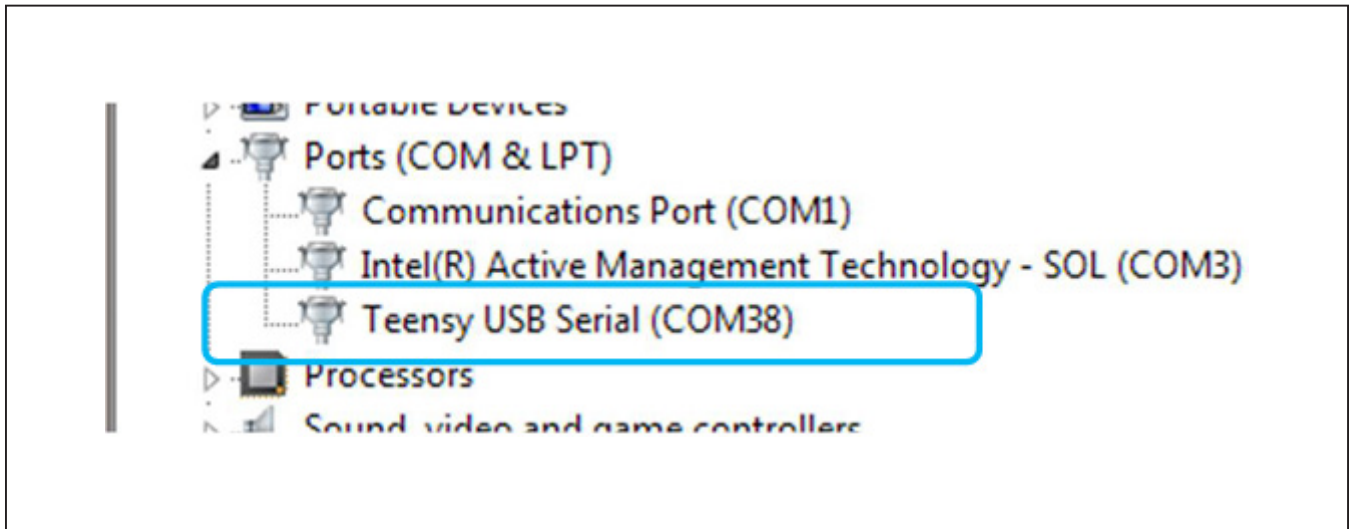

Figure 1. USB Driver Installation Status
- 3) Check USB driver installation status: if Windows successfully installs the USB driver, a new device called "Teensy USB Serial" should appear in the Windows Device Manager (Figure 1).